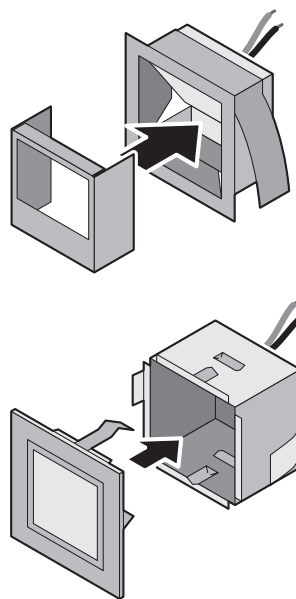

Fig. 1
1. Insert trim into flush fitting wall light (Fig. 1).